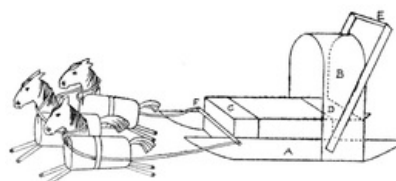
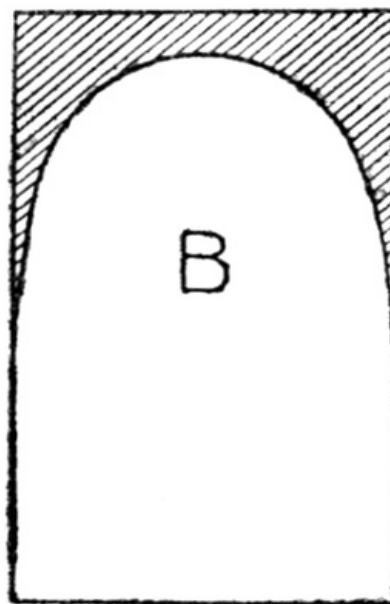

FIG. 130
FIG. 131
**Russian Sledge.** To make the sledge cut two runners out of brown paper (as A in Fig. 130), and gum on each side of a match-box. Make two brown-paper seats, C, D, and gum on. Cut part of the cover of a match-box as in Fig. 131 to form the back of the sledge, B. Gum a brown-paper hood round this. A narrow strip of brown paper, E, is bent and fastened on as in diagram. A match or